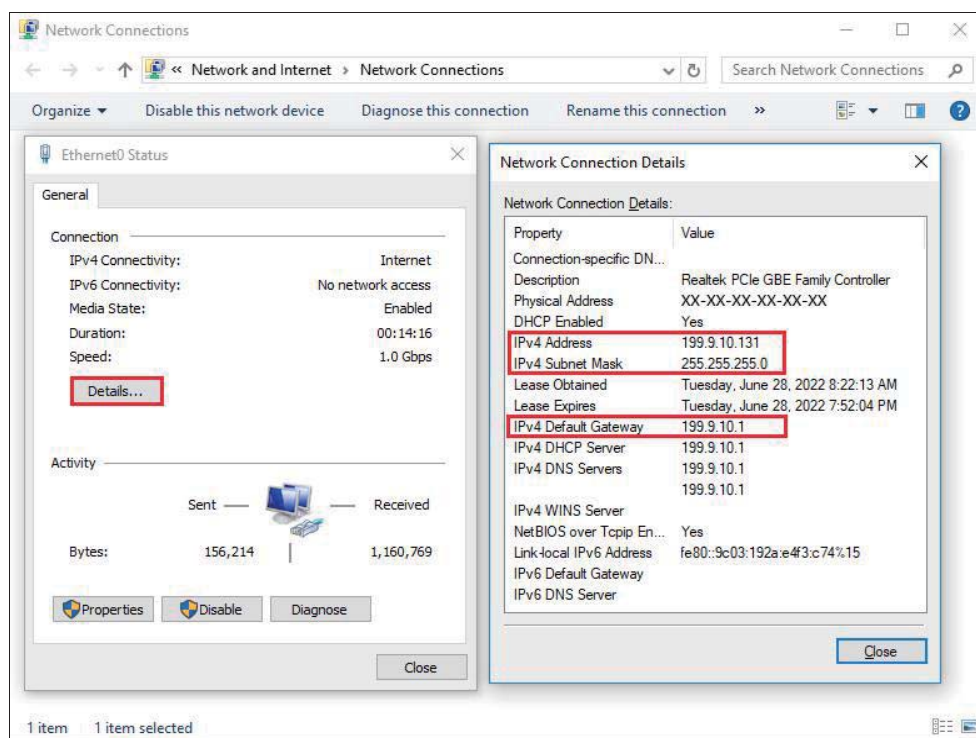

Figure 2-34 Check the LAN Information
2. Check the LAN information. See Figure 2-34.